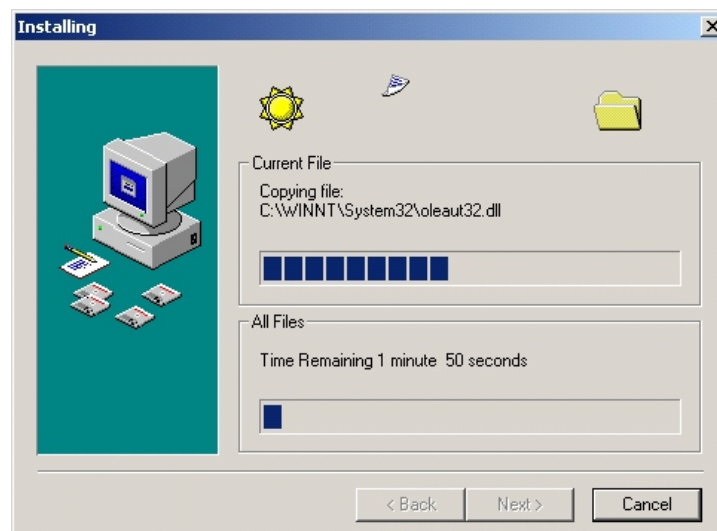

Figure B-2.13
15. The *Choose Destination Location* dialog window displays again (figure B-2.11). The correct path is verified. The **Destination Folder** depicted in figure B-2.11 is **C:\...\Solarwinds\Standard Edition**. This path places three periods in the place of the file named **Program Files**. If the path and file name displayed matches figure B-2.11, select **Next**. The software is loaded to the hard drive and the *Installing* dialog box displays (see figure B-2.13).